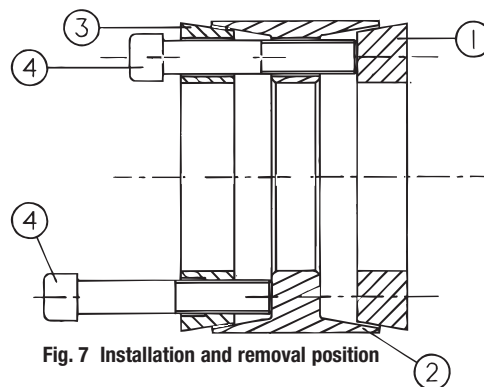

Fig. 7 Installation and removal position
2. Back-off all locking screws by at least two turns. Take out at least 3 equally spaced screws and insert them into adjacent push-off threads in front thrust ring ③ and outer ring ② as shown in Fig. 7. This procedure will keep the tapers apart for easy installation of the locking assembly. If the holes are covered with protective plastic caps remove them first, of course.
2. Remove plastic caps located in front thrust ring ③ (if included) and transfer the locking screws into all push-off threads provided in front thrust ring ③ and outer ring ② as shown in Fig. 7.
3. To release connection, progressively tighten all screws in diametrically opposite sequence except the two (2) screws adjacent to the slit, which must be tightened one after the other.